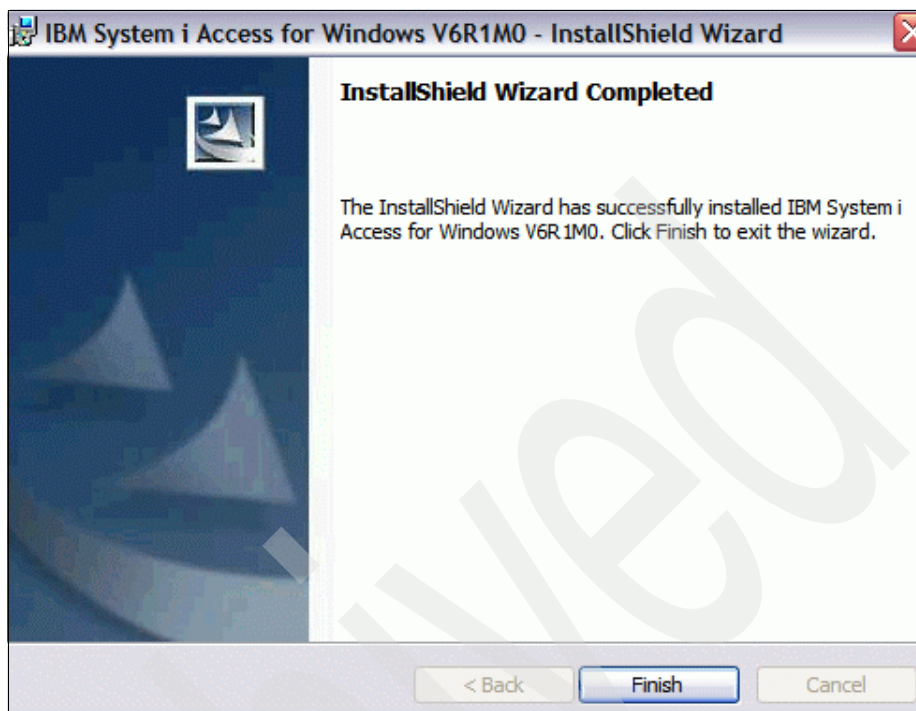

Figure 5-17 IBM System i Access for Windows installation completed
10. Figure 5-17 on page 234 indicates the installation process was successful.